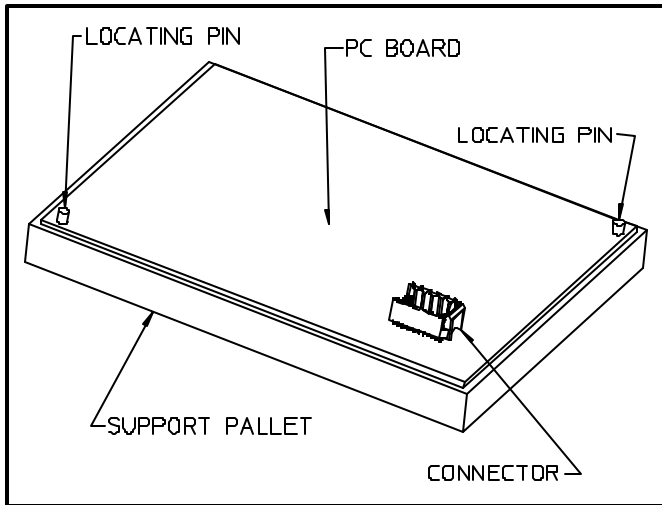

Fig. 2-8
2. Locate the pre loaded board into the support pallet. (See Fig. 2-8)